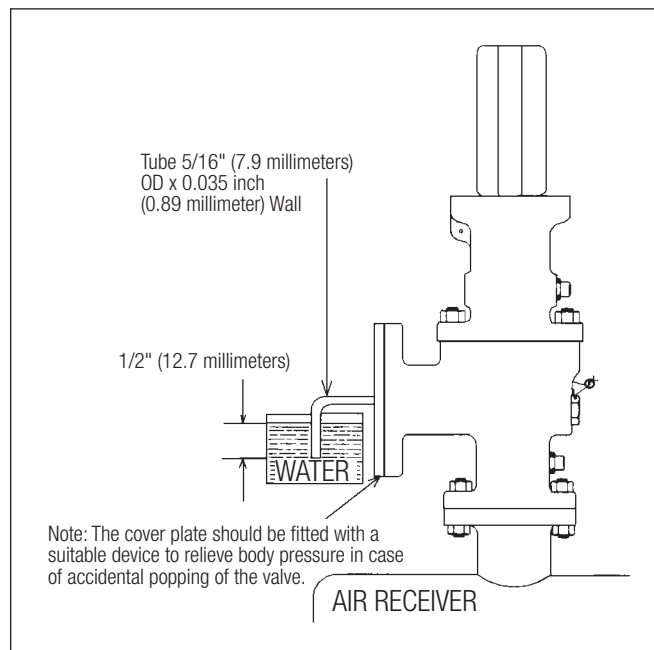

Figure 6
1. Next perform a seat leakage test. With the valve mounted on the test stand, attach a blind flange test fixture as shown in Figure 6 (air, gas, & vapor service valves only). For steam and water seat leakage testing, see paragraphs 4 and 5.